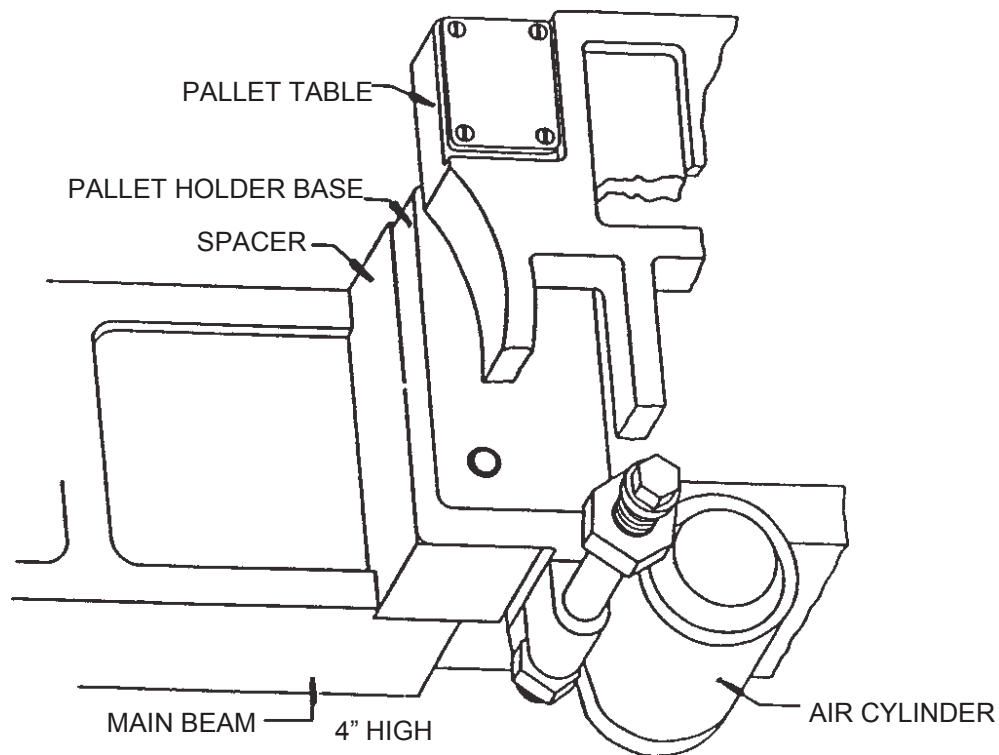

Figure 48, Pallet Holder Spacer Installation
- Install appropriate spacer(s) under each side of pallet table in relation to block height requirements (Figure 48).